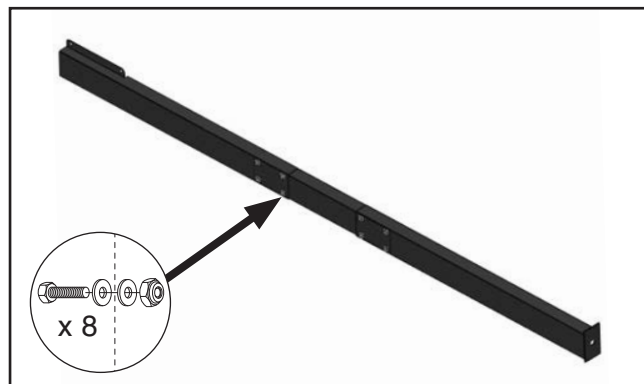

Figure 18. Assembled HEPA support leg (comprised of three parts).
17. Assemble all three HEPA support leg components (see **Figure 18**) with (8) $\frac{3}{8}$ "-16 x 1" hex bolts, (16) $\frac{3}{8}$ " flat washers, and (8) $\frac{3}{8}$ "-16 lock nuts.